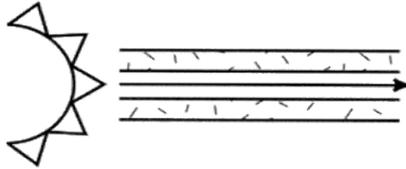

Figure 1: Single mode fibre
**Single Mode** (Figure 1) cable is a single strand of glass fibre with a diameter of 8.3 to 10 microns that has one mode of transmission. Single Mode Fibre with a relatively narrow diameter, through which only one mode can propagate typically 1310 or 1550nm. Carries higher bandwidth than multimode fibre, but requires a light source with a narrow spectral width. Single-mode fibre gives you a higher transmission rate and up to 50 times more distance than multimode, but it also costs more. Single-mode fibre has a much smaller core than multimode. The small core and single light-wave virtually eliminate any distortion that could result from overlapping light pulses, providing the least signal attenuation and the highest transmission speeds of any fibre cable type. Single-mode optical fibre is an optical fibre in which only the lowest order bound mode can propagate at the wavelength of interest typically 1300 to 1320nm.